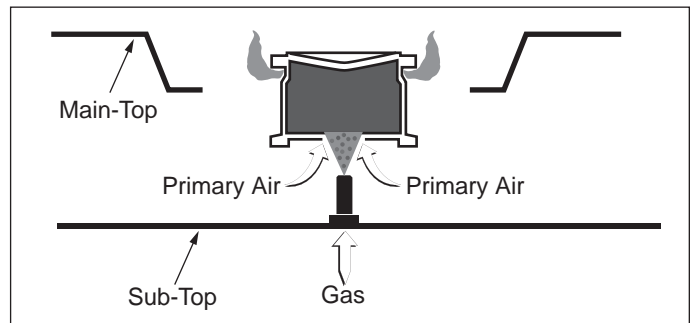

Figure 10
**NOTE:** Burners without mixing tubes (See Figure 10) will have a blowing flame for the first minute of operation. The cold burner will allow an increase in the amount of primary air mixing with the gas. When the burner warms up, the amount of primary air entering the burner is reduced and the flame will settle.